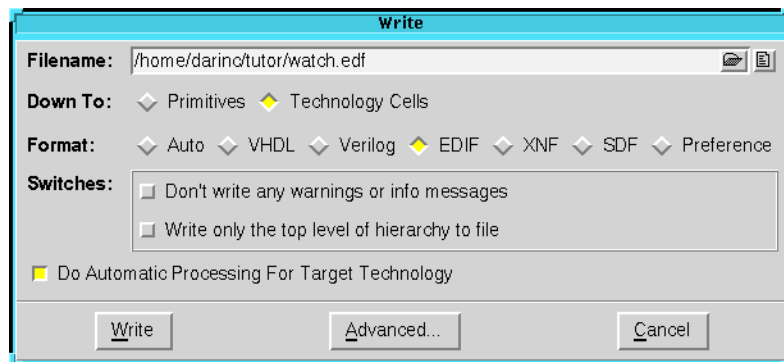

Figure 1-14 Leonardo Write Dialog Box
23. In the Leonardo Flow Guide main window, click on the Write button to open the Write dialog box which is shown in the following figure 1-14.